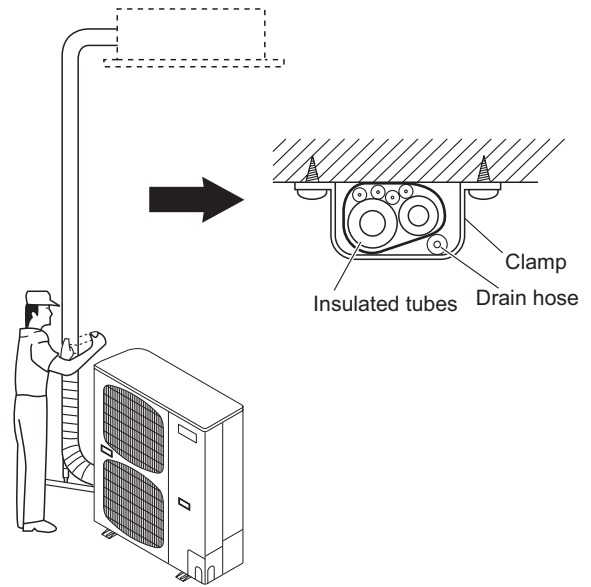

Fig. 2-23
- (1) At this time, the refrigerant tubes (and electrical wiring if local codes permit) should be taped together with armoring tape in 1 bundle. To prevent the condensation from overflowing the drain pan, keep the drain hose separate from the refrigerant tubing.
- (2) Wrap the armoring tape from the bottom of the outdoor unit to the top of the tubing where it enters the wall. As you wrap the tubing, overlap half of each previous tape turn.
- (3) Clamp the tubing bundle to the wall, using 1 clamp approx. each ft. (Fig.2-23)